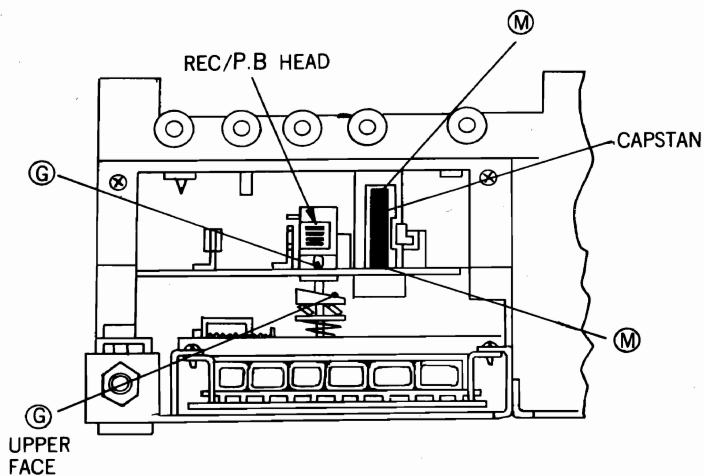

Fig. 10
One or two drops of machine oil may be applied to the points (M) Grease may be applied to the point (G) as shown in Fig. 10.